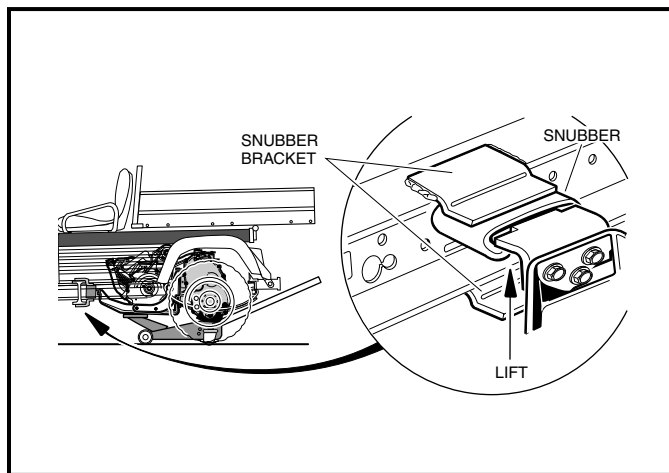
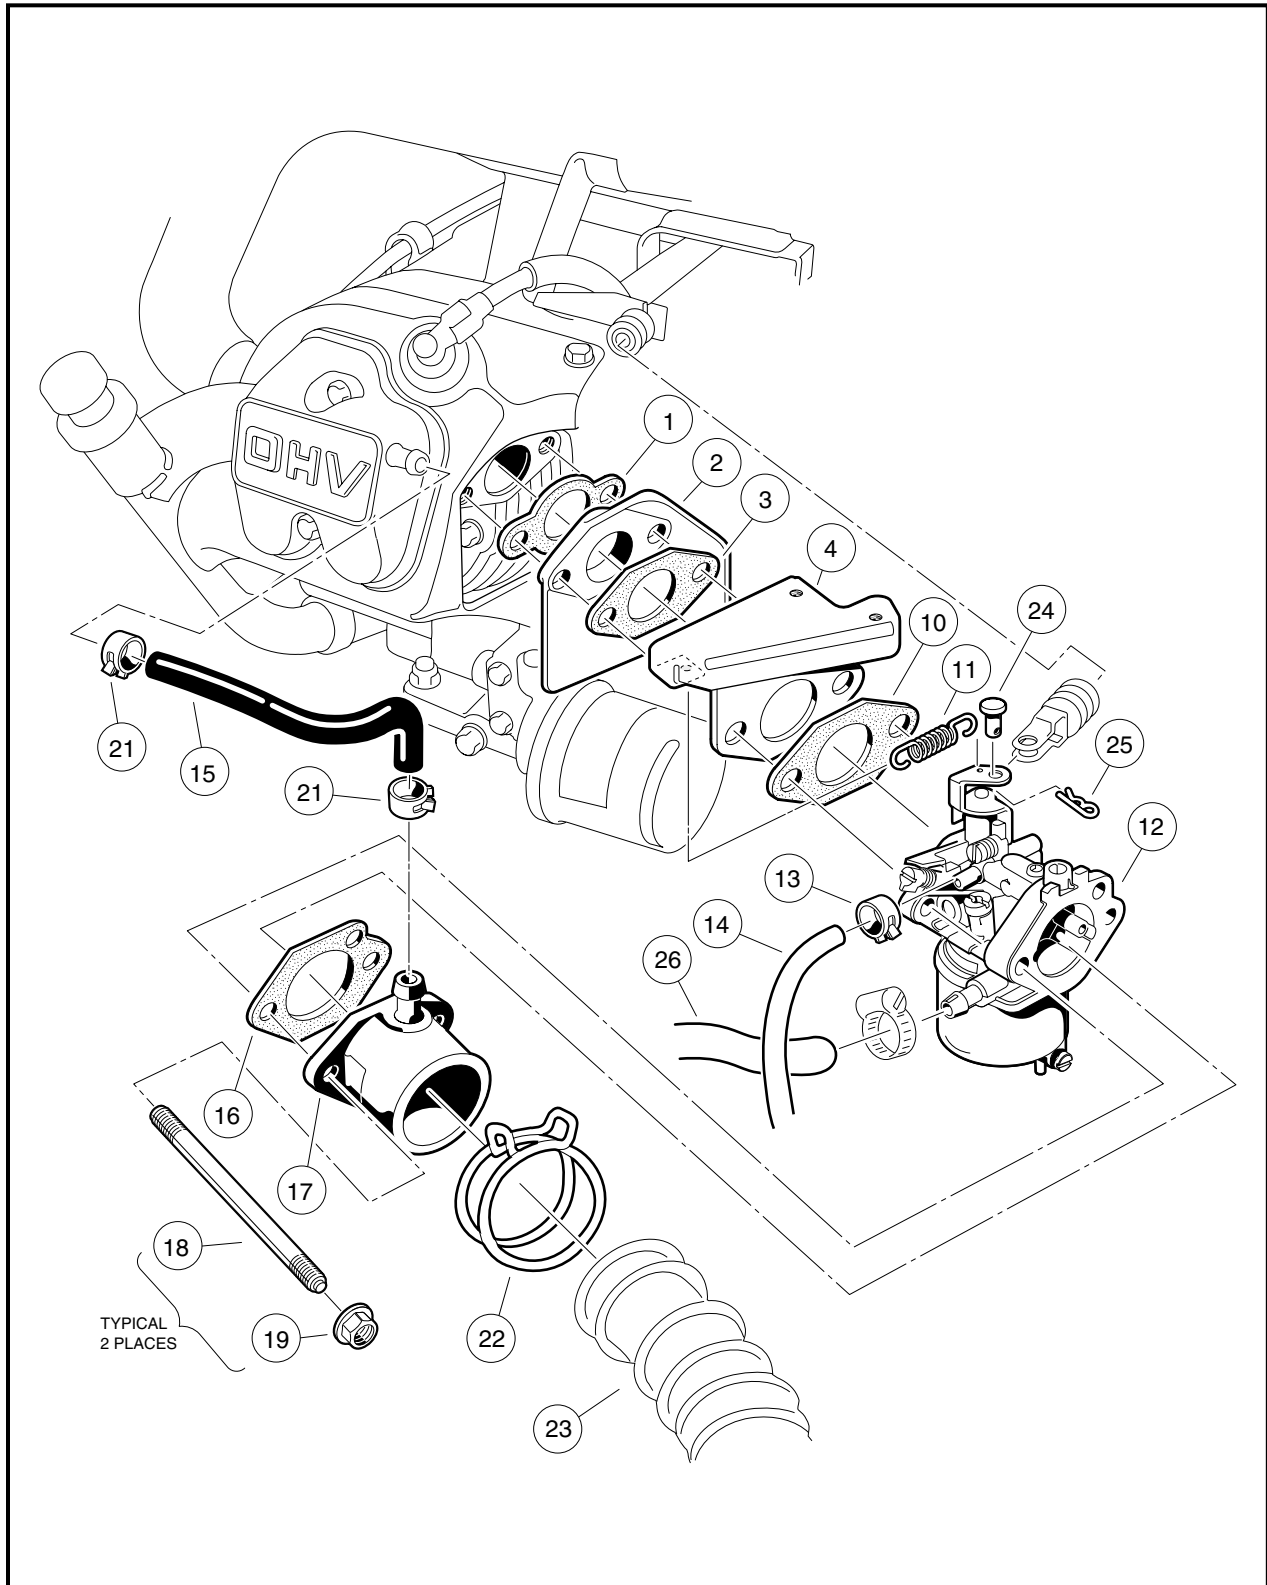

Figure 14-6 Compress Engine Snubber
Figure 14-7 Carburetor Installation
1. Remove the carburetor (**Figure 14-7, Page 14-8**).
- 1.9. Chock the front wheels and place a floor jack under the engine mounting plate, and raise the engine until the front bracket snubber is fully compressed. This will allow the carburetor to pass the electrical box assembly. (**Figure 14-6, Page 14-7**).
- 1.10. Remove the carburetor retaining nuts (19), intake pipe (17), and carburetor (12). **See following NOTE.**
NOTE: Note the orientation of the gasket (16), between the carburetor intake pipe (17) and the carburetor body (12) so that it can be replaced in the same orientation (**Figure 14-7, Page 14-8**).
12. Loosely attach the throttle return spring (11) to the carburetor throttle (12) and throttle bracket (4).
13. Install the carburetor (12), gasket (10), throttle spring (11), bracket (4), gaskets (1) and (3), and carburetor insulator (2) onto the manifold bolts (18) (**Figure 14-7, Page 14-8**).
14. Install the intake pipe gasket (16) (check for proper orientation) and intake pipe (17).
15. Install the carburetor retaining nuts (19) and tighten them to 50 in-lb (5.7 N·m).
16. Lower the floor jack from under the engine mounting plate, allowing the front bracket snubber to return to normal condition (**Figure 14-6, Page 14-7**).
17. Connect fuel supply line (26) and tighten screw clamp to 9 in-lb (1.0 N·m) (**Figure 14-7, Page 14-8**).
18. Install carburetor vent line (14) and clamp (13).
19. Install the governor cable clevis pin (24) and cotter pin (25).
20. Install the intake hose (23) and secure with hose clamp.
3. Remove the cotter pin (25) and clevis pin (24) at the carburetor throttle bracket (**Figure 14-7, Page 14-8**).